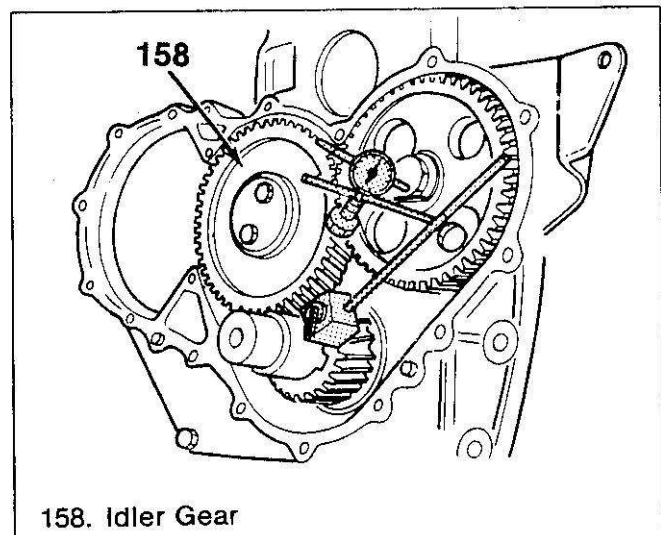

Figure 81. Measuring Gear Backlash
- Gear backlash. Use a dial indicator with a magnetic base as shown in figure 81. The plunger should rest against the teeth of the idler gear (158). Turn the idler gear back and forth and read the backlash (figure 81). Production backlash is 0.10–0.17 mm (0.004–0.007 in). Service limit is 0.3 mm (0.012 in).